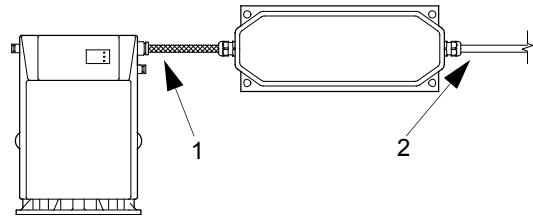

Fig. 144 Connection cables
To meet CISPR 11, class B, group 1, the cable between filter and motor must be a screened cable. See fig. 144, pos. 1. The ends of the screened cable must be terminated with EMC cable glands to ensure correct functioning of the filter. The normal cable glands in the MGE motor have to be exchanged with special EMC cable gland supplied in this kit.